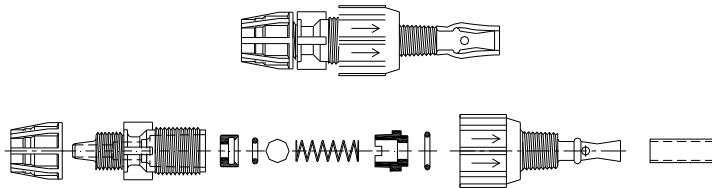

Figure 4: Injector valve
- 4) Apply Pipe tape to the injection fitting threads and install into piping system. **Do not remove the plastic sleeve on the tip of the fitting; it is a functional part** – see Figure 4.
To install tubing remove the compression fitting's coupling nut and sleeve and slide onto tubing with the sleeve located .38-in (9,5mm) from the tubing end – see Figure 4. Place tubing into fitting and hand tighten the coupling nut. NOTE: Immerse tubing in hot water to soften prior to pushing on to fitting. **Hand-tighten only, do not use wrenches. For in line check valve location, do not insert the tube more than .38in into the valve body.**